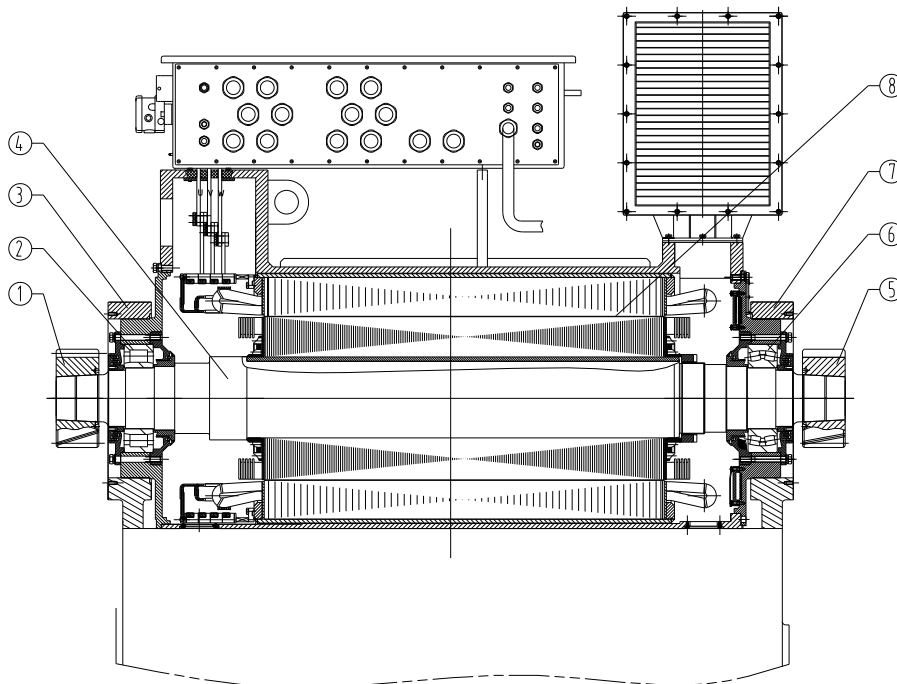

Figure 17: Pinion Shaft Assembly Reference Diagram
- Remove the gear case cover plate, the cover plate is one piece, but the internal part is two pieces, it is convenient to disassemble the pinion shaft assembly. Figure 17 to reference component locations for the pinion shaft assembly disassembly procedure.